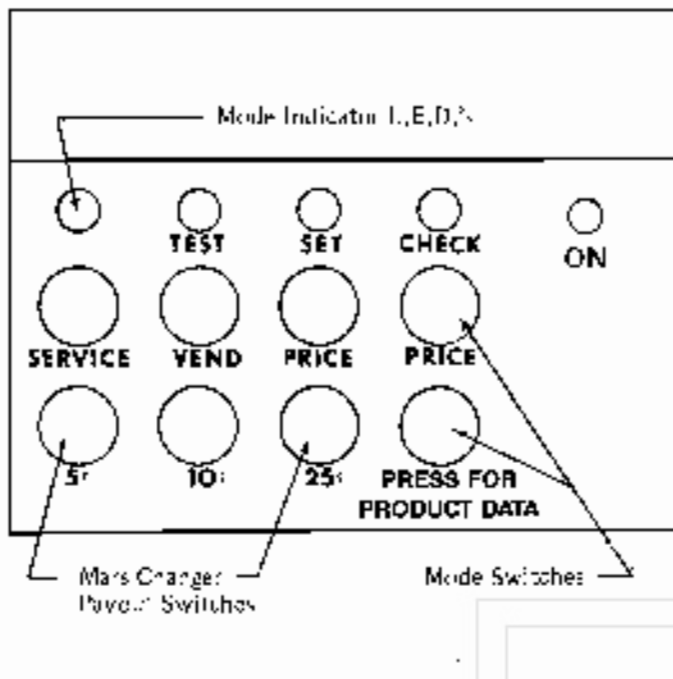
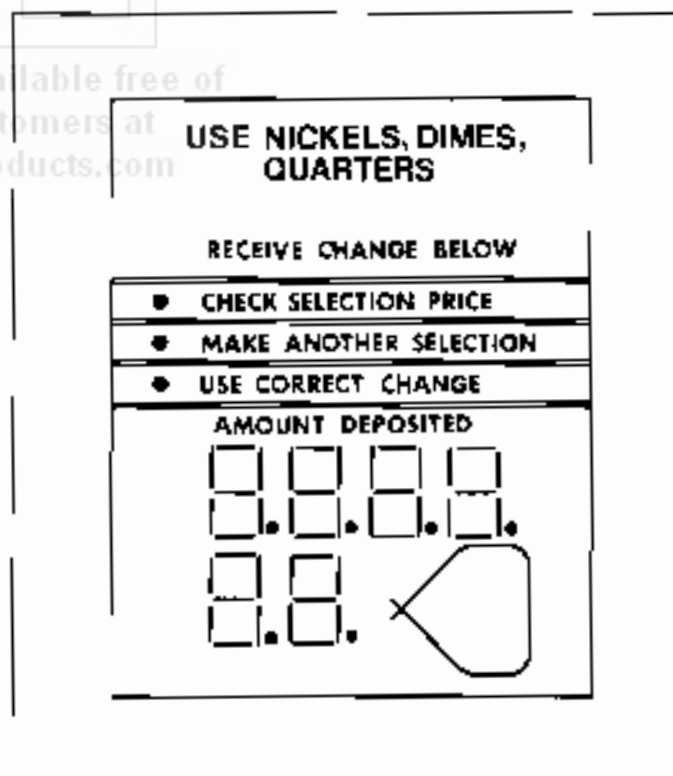

Figure 10. MODE SWITCHES.
Figure 20.
The mode switches are located on the control board. They allow for control of the following machine functions: Set price mode, check price mode, test vend mode, service mode and set serial number mode (see Figure 10). The
- A. Press the mode switch "set price" button on the control board (Figure 10). The L.E.D. above the set
- A. Press the mode switch "check price" button on the control board (Figure 10). The L.L.D. above the check price button will light and the selection panel display will be blank.
A. Press the mode switch 'set price' button on the control board (Figure 10). The L.L.D. above the set price button will light and the display located on the selection panel will be blank. Any selection programmed now will be removed from the operating program. This would be done when shelves are moved or the number of selections change (Example: Replacing a four selection shelf for a eight selection shelf.)
A. Press the mode switch 'check price' button on the control board (Figure 10). The L.L.D. above the check price button will light and the selection panel display will be blank.
- A. Press the mode switch "insert price" button on the control board (Figure 10). The L.E.D. above the check price button will light.
- A. Press the mode switch "test vend" button on the control board (Figure 10). The L.E.D. above the test vend button will light and the display located on the selection panel will be blank. The machine is now ready to operate exactly under the same conditions as in the operate mode, so you will have to use money for the testing. After all servicing and testing has been made return the machine to the operate mode. The machine is now ready for normal customer usage.
- A. Press the mode switch "service" button located on the control board (Figure 10). The L.E.D. above the service mode button will light and the selection panel L.E.D.'s will all light (Figure 20). This tells the service person if all L.E.D.'s are in operating condition and that the Control Board is operating.
cedure until all non-functioning selections have been displayed, recorded and the selection panel display reads all 8's (Figure 20).